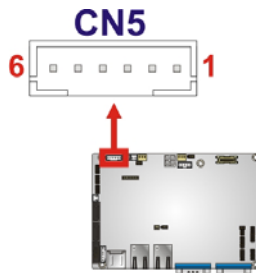

Figure 3-13: LED and +5 V Power Output Connector Location
- CN Location:** See **Figure 3-13**